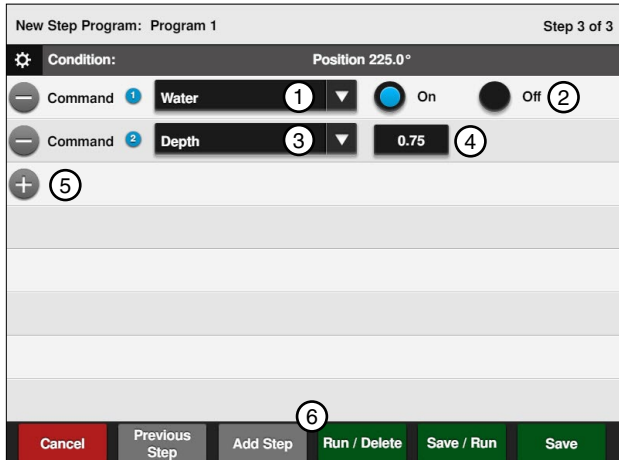

Figure 110-2 1. Water Command 2. Water ON 3. Depth 4. Inches 5. Add Command 6. Add Step
9. Enter the commands to be executed at this position. Refer to Figure 110-2.